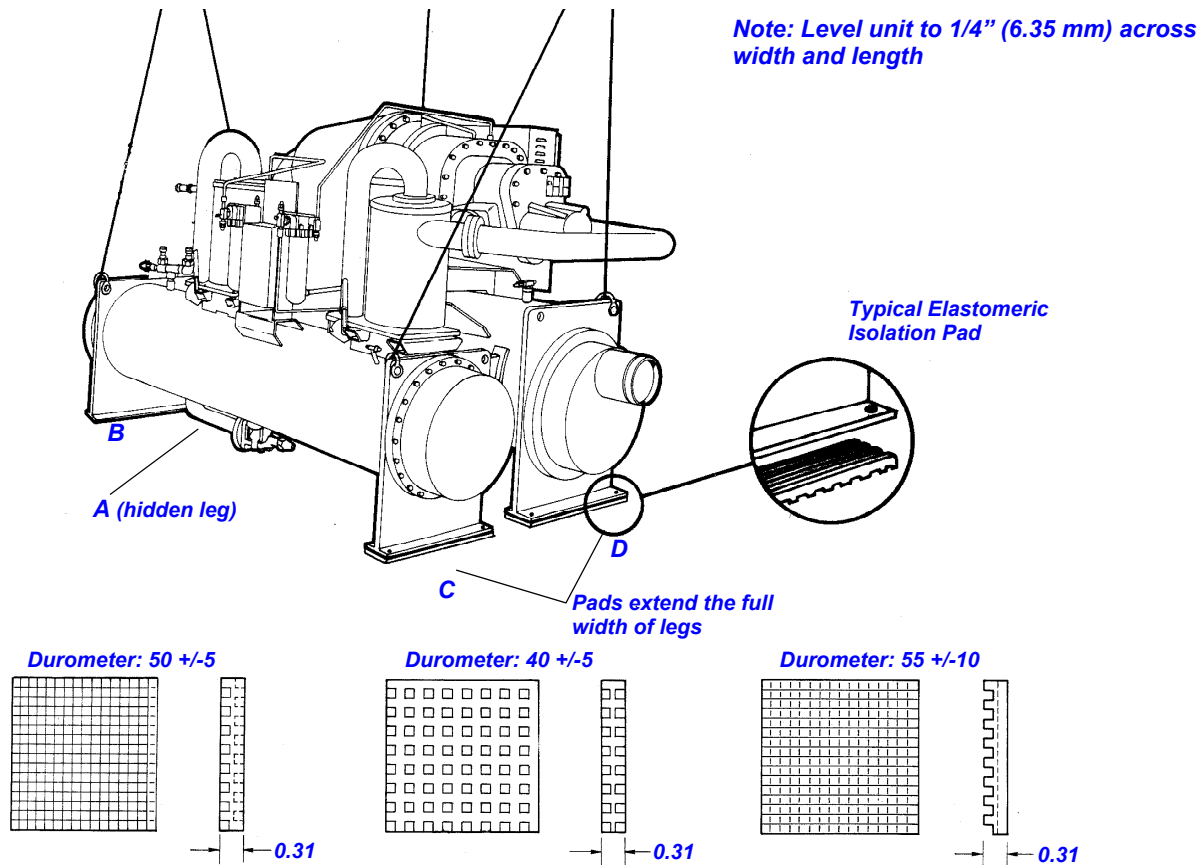

Figure 7 Isolator Pad Placement
- During final positioning of the unit, place the isolation pads under the evaporator and condenser tube sheet supports as shown in Figure 7. Level the unit as described in the next main paragraph.
NOTE: Durometer values for isolator pads are a measure of resilience. See Figure 7.